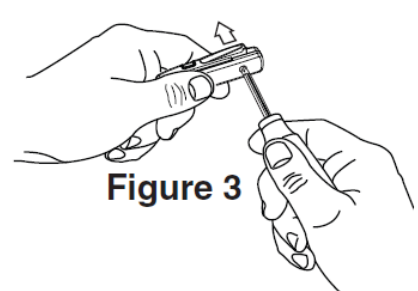

Figure 3
3. The battery cover pops open. (Figure 3)